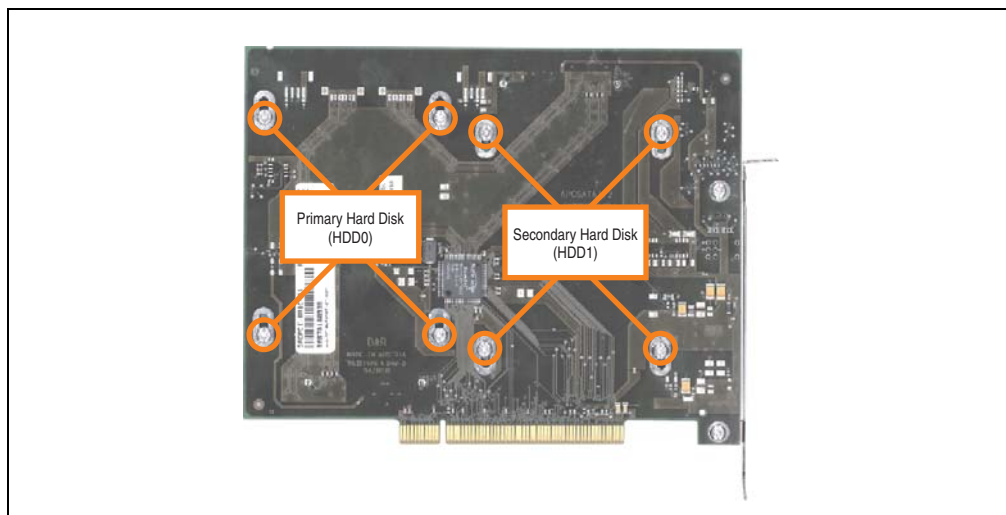

Figure 338: Screw assignment on the back side of the SATA RAID controller
- Loosen the 4 appropriate mounting screws (M3x5) - see Figure 338 "Screw assignment on the back side of the SATA RAID controller", on page 563.